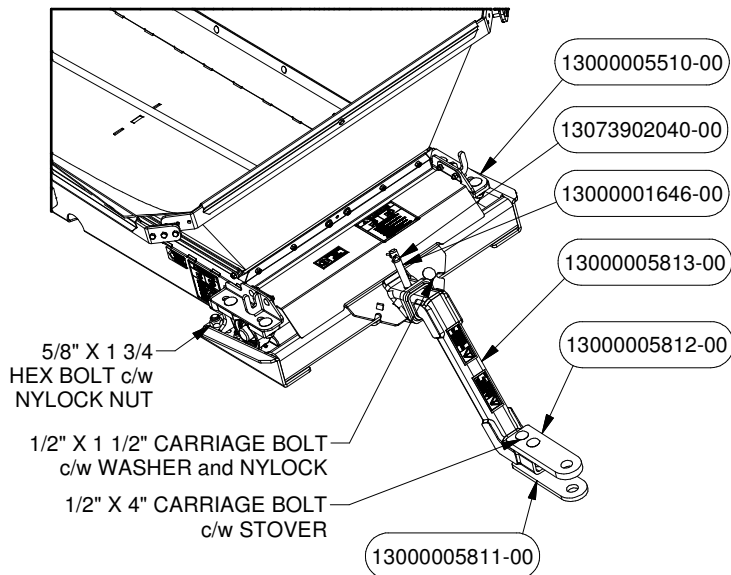

FIGURE 32
12. Attach the Hitch PN# 5510 to the Intake using Hex Bolts c/w Nylock Nuts as shown in Figure 32.
Attach the Drawbar PN# 5813 to the Hitch and lock it using a Pin PN# 1646 (see Figure 32) and Safety Chain PN# 7863 using Carriage Bolts, Washers and Nylock nuts.
Attach the Drawbar PN# 5813 to the Hitch and lock it using a Pin PN# 1646 and Safety Chain PN# 7863 using Carriage Bolts, Washers and Nylock Nuts (see Figure 32).